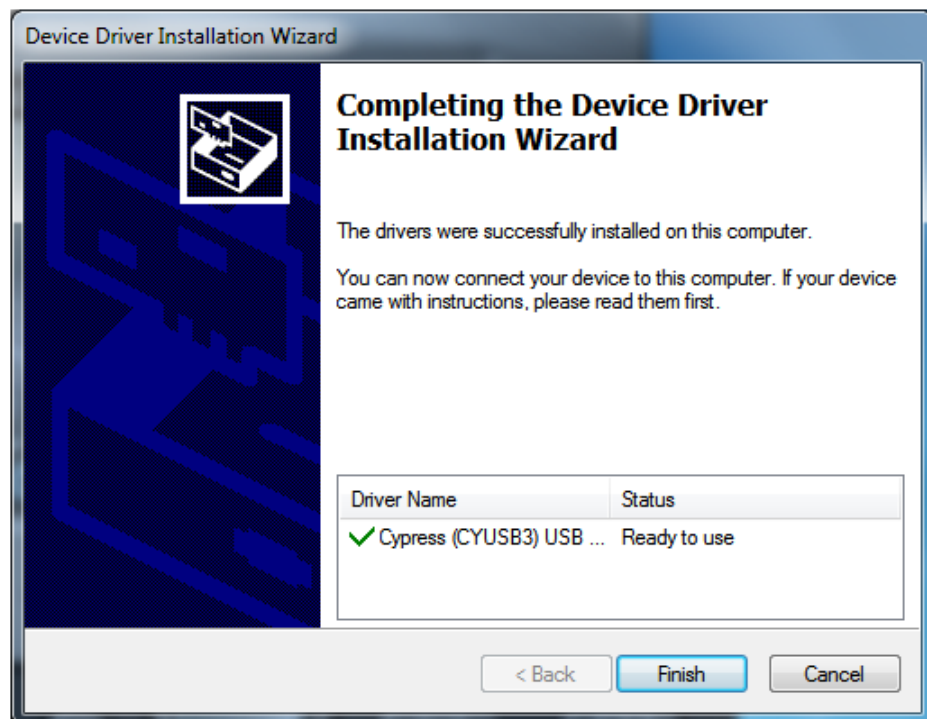

Figure 31. HSDCPro Install (Continue Cypress Driver Installation)
8. Click *Finish* to continue installation, as shown in Figure 31.